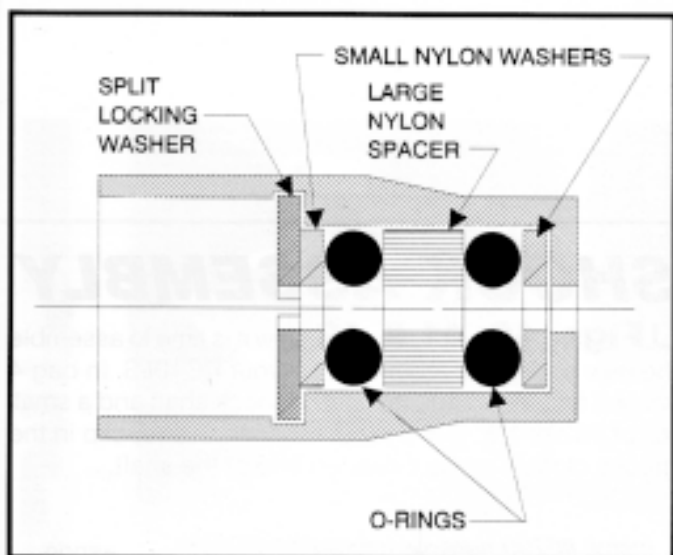
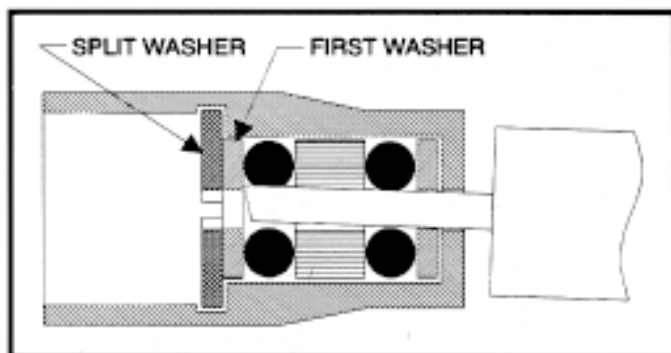

Fig. 48
Fig. 48A
(1) Stand the assembly tool on end with the small tip up and install the parts on the shock assembly tool in the following order: (2) install the nylon split locking washer, (3) then one small nylon washer, (4) red O-ring, (5) large nylon spacer, (6) red O-ring, and (7) second small nylon washer. You can compare this sequence with figs. 47 and 48. Fig. 48 shows a cutaway drawing of the shock body with the parts installed.
☐ **Figs. 48 & 48A HOW TO DISMANTLE THE SHOCK SEAL PARTS.** Fig. 48 shows a cutaway of the bottom portion of the shock showing how all of the parts fit into the shock seal cavity. Fig. 48A is the same cutaway drawing, but depicts the shock assembly tool removing the shock seal parts.